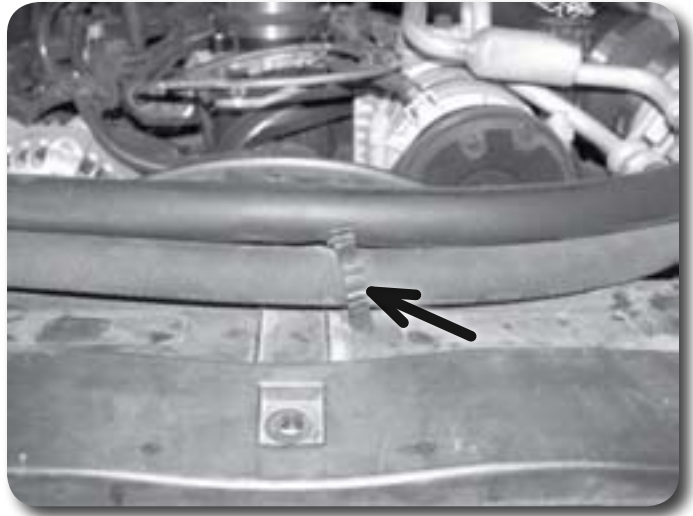

Figure 9
12. If equipped, remove the AC line from the plastic hose clip on the upper fan shroud **Figure 9**.